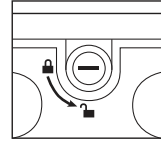

Fig. 1 (transmitter with case open)
4. Press the black RESET button on the transmitter opposite the battery (Fig.1).